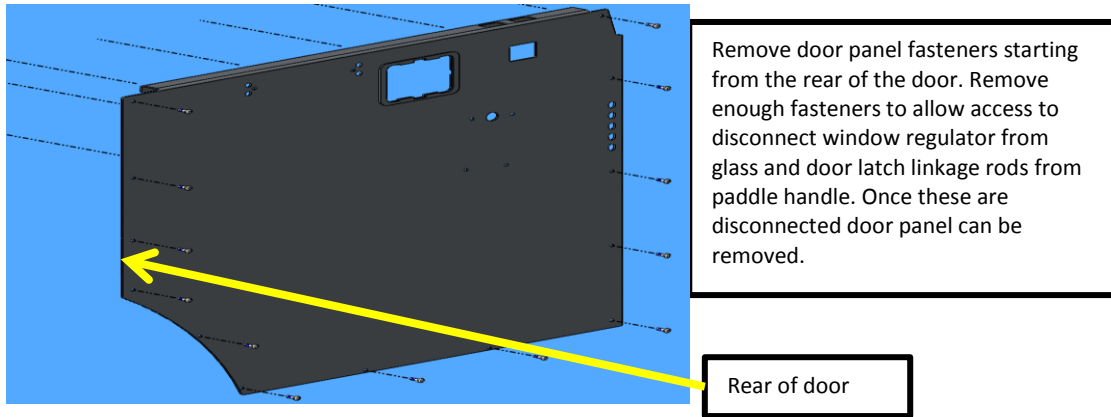

FIG. 6-1
3. Remove door panels. While removing the door panels the window regulator will need to be disconnected from the door glass. Refer to FIG. 6-1, FIG. 6-2 and FIG. 7-1.